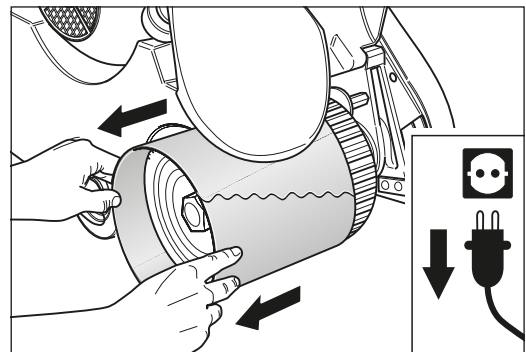

Fig. 38 Pull the worn sanding sleeve off the sanding drum.
- 4 Pull the worn sanding sleeve off the sanding drum (fig. 38).